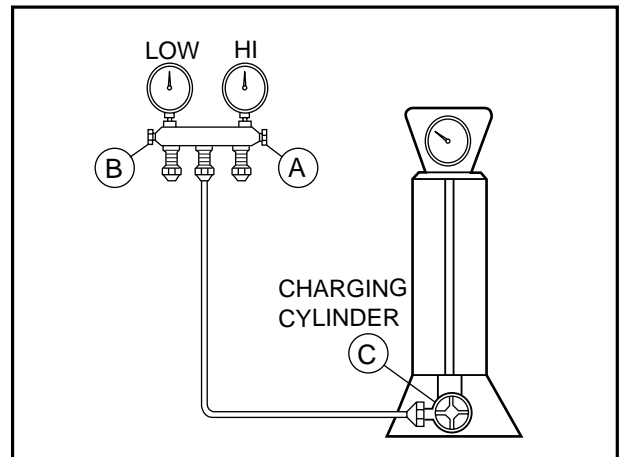

Figure 20B-Charging
- 4) Remove the hose from the vacuum pump and place it on the charging cylinder. See figure 20B.
- 2) Connect the charging cylinder as shown in figure 20B.